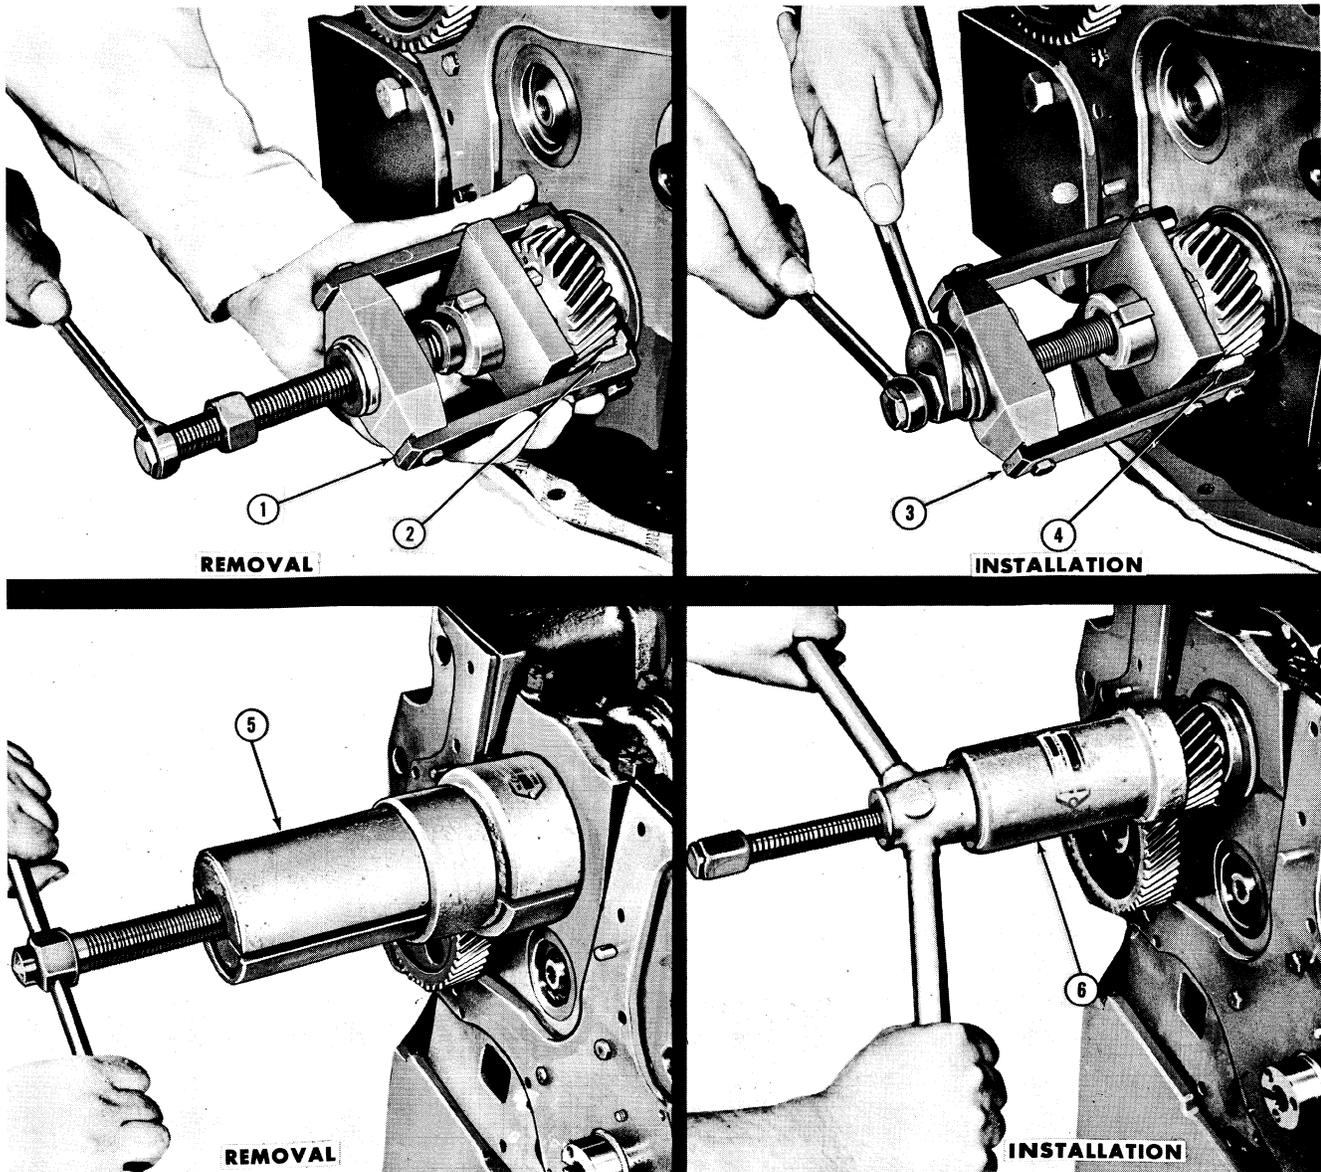

Figure 28
Remove the crankshaft gear with Crankshaft Gear Remover-Replacer, No. SW 501 Insert SW 501-1, or Remover No. CPT 6040, as shown in Figure 28.
2. Install the crankshaft gear with Crankshaft Gear Remover-Replacer No. SW 501 and Insert SW 501-1, or Replacer No. CT 6069, as shown in Figure 28.